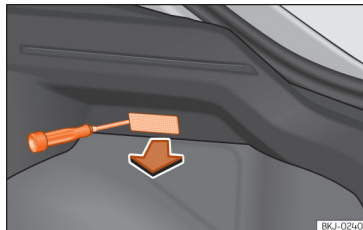

Fig. 169 Boot light.
- Extract the bulb by pressing on its inside edge using the flat side of a screwdriver >>> **Fig. 169**.